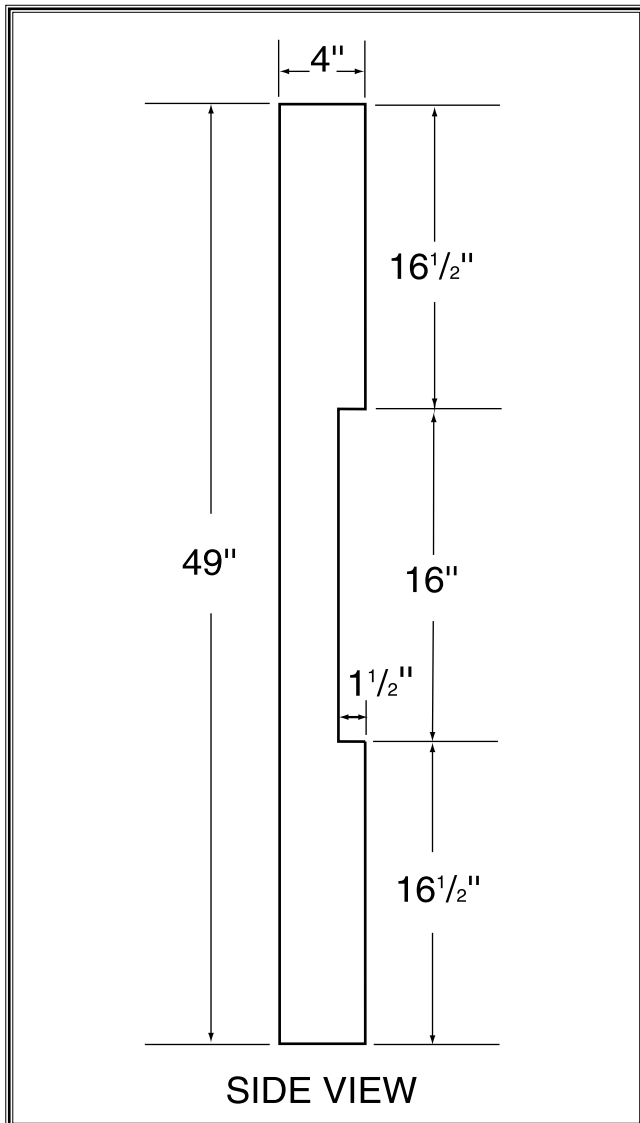

Figure 33. Dimensions of coplanarity gauge.
1. The body of the bandsaw does not allow you to place a regular straightedge across both wheels at the same time. We've found a simple way to overcome this situation. All you need is a 49" x 2" x 4" board and a saw. After you are certain that the board is straight (this can easily be checked with a 4' level), simply cut a 1 1/2" notch out of the center. Refer to **Figure 33** for more details on how to make this gauge.